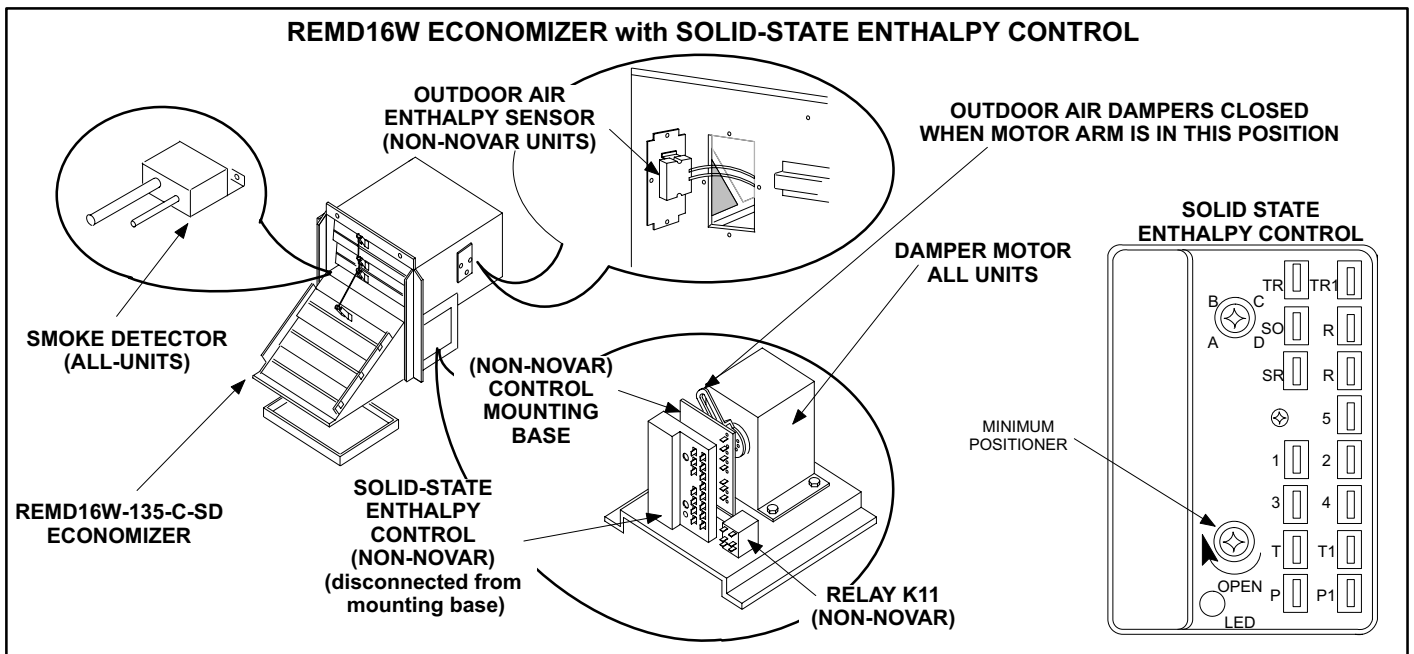

FIGURE 32
REMD16W-135-C-SD shown in figure 32 (Non-NOVAR) is similar in construction to the REMD16W-135-A-SD (NO-
It is equipped with internal enthalpy controls for independent operation. Refer to figure 32. Refer to back of manual for sequence of operation diagrams. When servicing units with NOVAR control system installed, refer to Section IV for NOVAR components. REMD16W-135-C-SD is designed primarily for non-NOVAR applications.
(figure 32) which allows the dampers to be adjusted so they remain partially open during all unit operation. This allows a minimum amount of air exchange during unit operation. When unit operation stops, dampers drive fully closed.
- f - Remove jumper then restore power to unit. Adjust minimum position pot (see figure 32).
- c - Install jumper on enthalpy control terminals T and T1 as shown in figure 32.